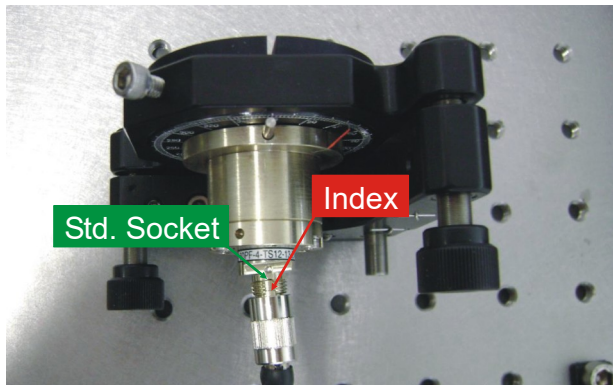

Fig. 2.15: For the standard configuration of the LCU (MicroTime 200) the connector **Index** has to be fit in to the **Std. Socket** of the fiber coupler.
Carefully plug the ferule into the coupler and avoid damaging of the face at the fiber end. Rotate the connector until the connector **index** fits into the **Std. Socket** (see Fig. 2.15). Then screw the lock ring by hand and fix the ferule with the small screw **only finger tip tight** (see Fig. 2.15 - use a appropriate screw driver from the supplied toolbox). **Keep in mind that for the disassembling of the fiber the ferule has to be unlocked.**
- Olympus FV1000/3000: New in coupling with polarizing beamsplitter: Connector at both sides: Standard norm (Fig. 2.15).